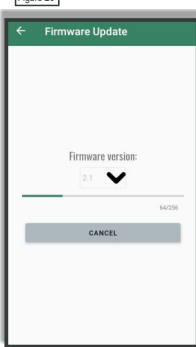

Figure 23
Step 3: Touch the **Update** button and the smartphone will download the firmware and start transmitting it to the converter. A progress bar (Figure 23) will indicate how many blocks were transmitted, and the total number or firmware blocks. The update can be canceled at any time by touching the **Cancel** button.